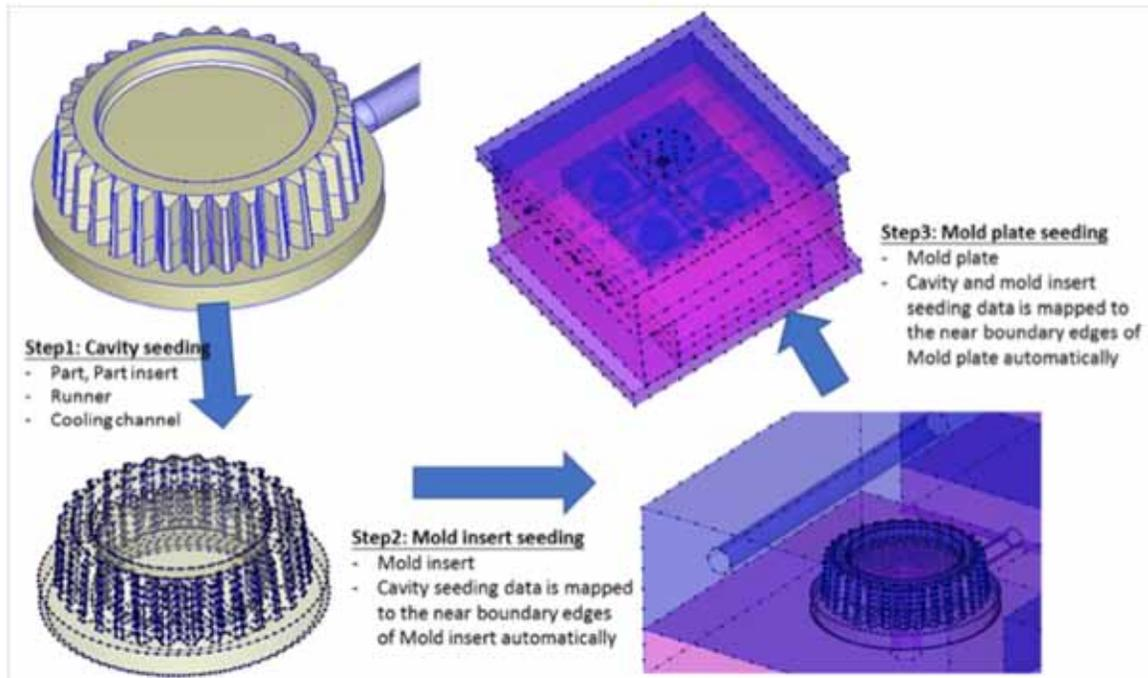

Figure 2: The three-step node seeding data will be brought to the analysis of the next item.
3. Node seeding: Set node seeding from the cavity, mold insert to mold plate. The new node seeding capability can automatically bring the node seeding data of the cavity or mold insert edges to the adjacent edges of the mold insert and mold plate. This function enhances the node seeding efficiency of complete mold with multiple components, and reduces size gaps of the node seeding density between the adjacent components (**Figure 2**).